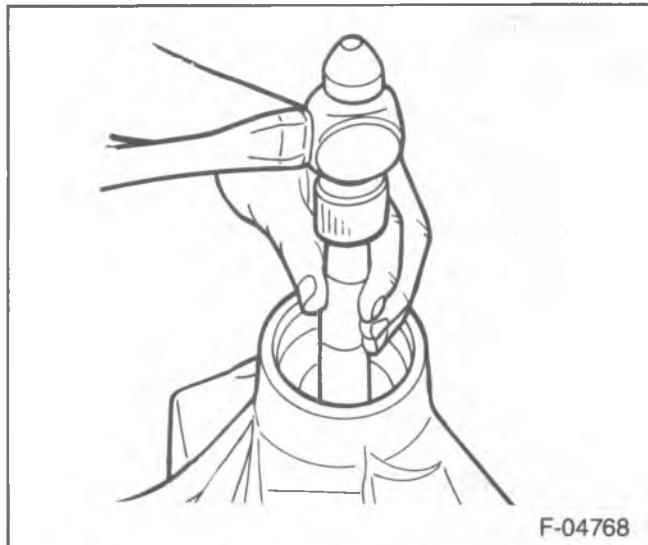
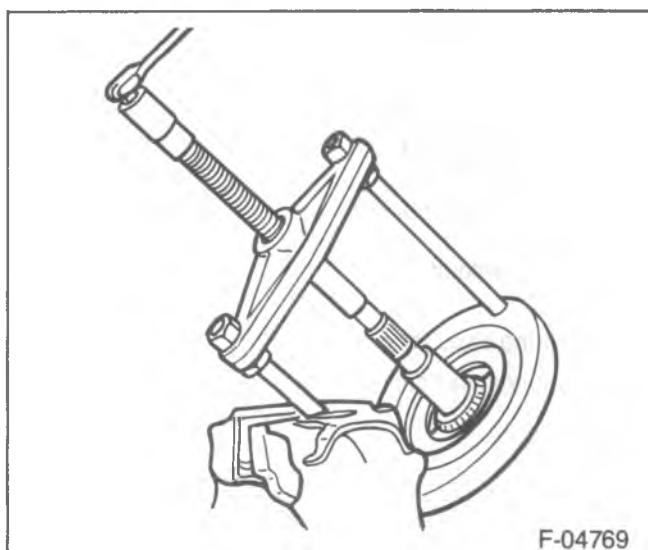

Figure 39—Removing the Bearing Cups
Figure 40—Removing the Pinion Inner Bearing
21. Pinion seal (9).
22. Pinion outer bearing (7) and oil slinger (8).
23. Bearing cups (3) and (7) from the axle housing using a hammer or a punch (figure 39).
24. Pinion adjusting shims (4) and baffle (5).
25. Pinion inner bearing (3) using J-29721 and J-29721-70 (figure 40).